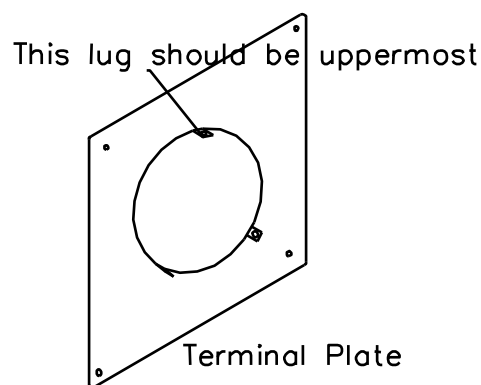
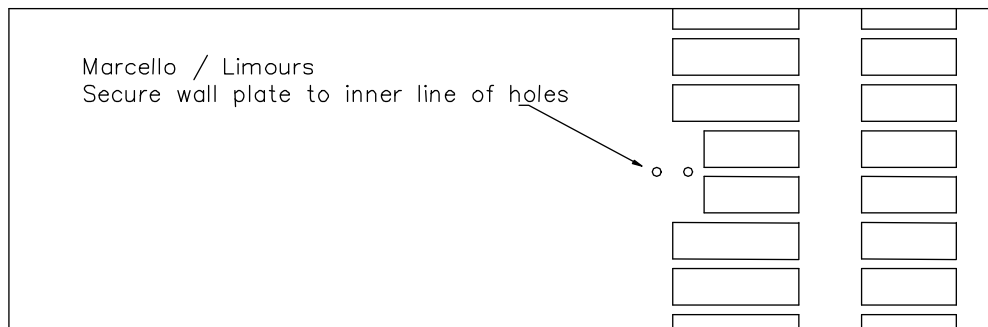

Figure 3
Figure 4
the wall using screws and wall plugs. Make sure the plate is fixed the correct way up. (See Figure 3) Slide the flue further into the wall until the tabs on the wall plate line up with the holes in the outer flue tube. Temporarily fix the tube to the wall plate with the self tapping screws provided. Use the inner holes as shown in Figure 4.
- 3 Thread the outside wall plate onto the flue and push the flue into the wall from the outside. Apply mastic to the rear face of the wall plate and fix to the wall using screws and wall plugs. Make sure the plate is fixed the correct way up. (See Figure 3) Slide the flue further into the wall until the tabs on the wall plate line up with the holes in the outer flue tube. Temporarily fix the tube to the wall plate with the self tapping screws provided. Use the inner holes as shown in Figure 4.